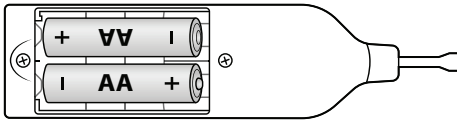

Fig. 1
- ◆ Insert the batteries into the wax melter **1** as indicated in the battery compartment **4** (see fig. 1).